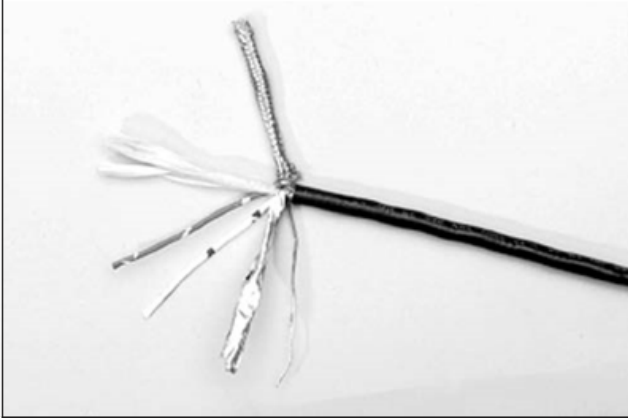

Figure 16 - Separating Cable Parts
2. Separate the cable parts. Unbraid the shield and peel back the shield to the same point where the outer jacket was removed as shown in Figure 16.